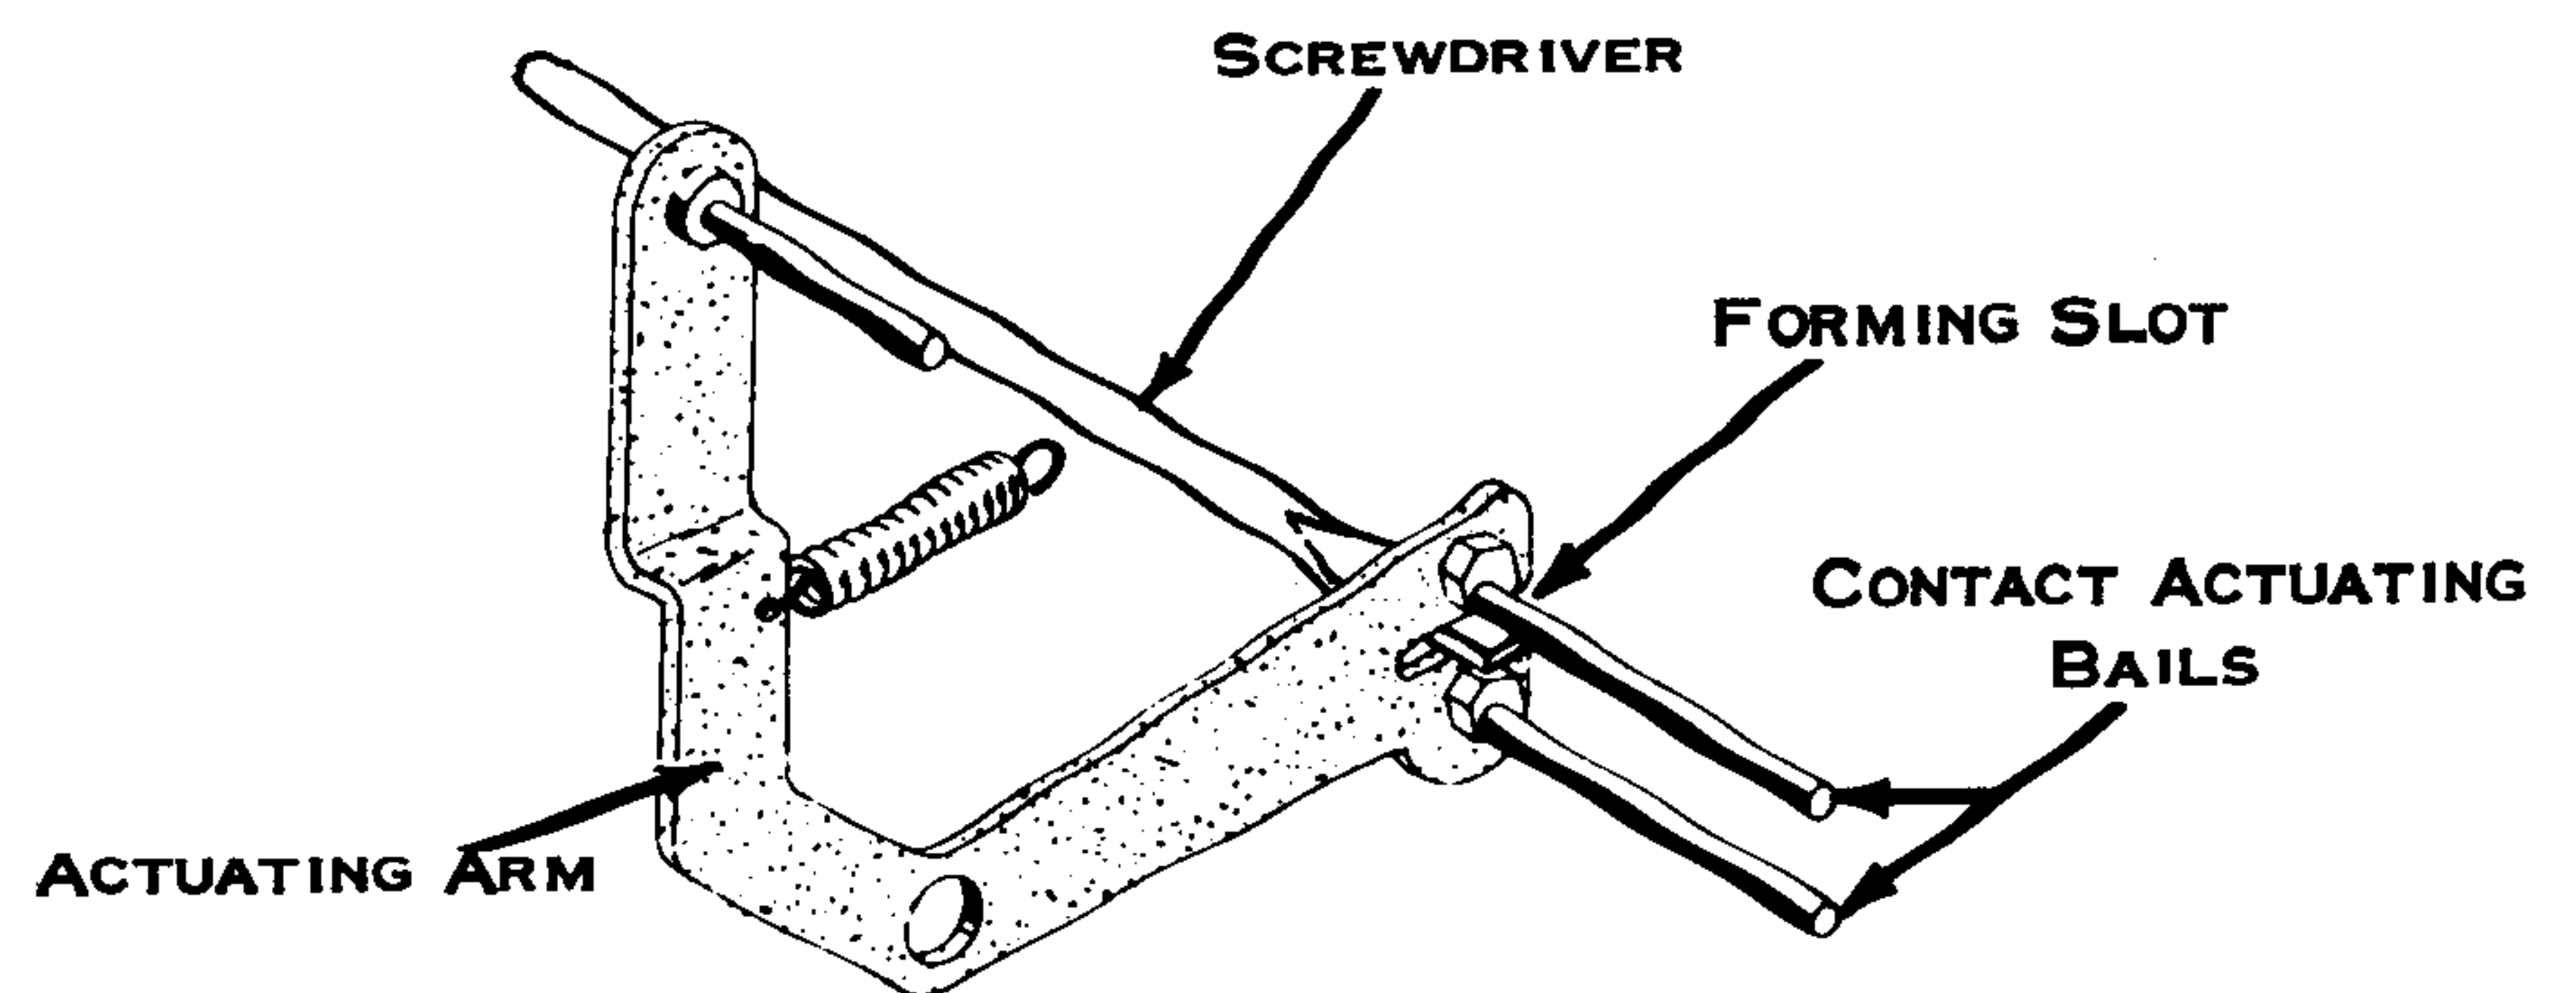

Figure 141. Parallel Actuating Bail
3. Parallel Actuating Bails (Fig. 141) - Form the actuating arm slot as required to provide equal latch to O/S stop clearances where a bail actuates more than one contact.